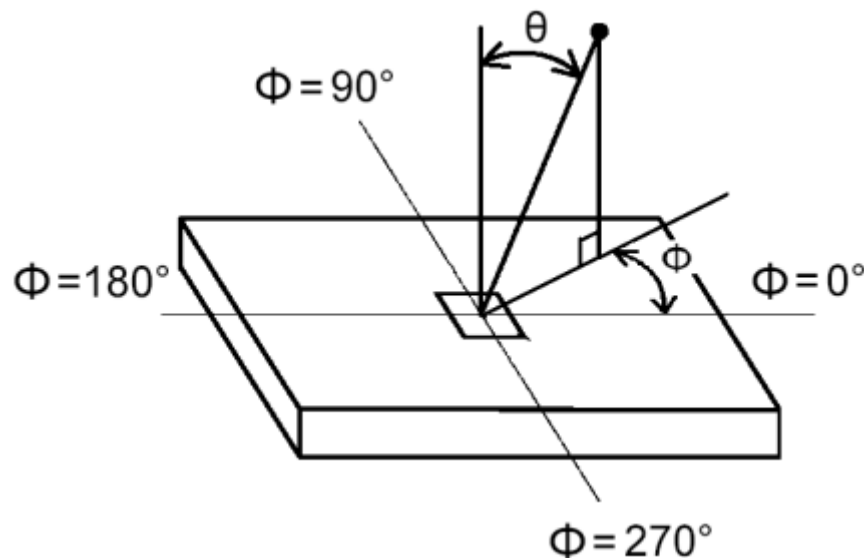

**FIG. 2 Luminance**
2. Surface luminance is luminance value at point 5 across the LCD surface 50cm from the surface with all pixels displaying white. From more information see FIG 2. When lamp current  $I_H = 11\text{mA}$ .  $L_{WH}=L_{on5}$  where  $L_{on5}$  is the luminance with all pixels displaying white at center 5 location.